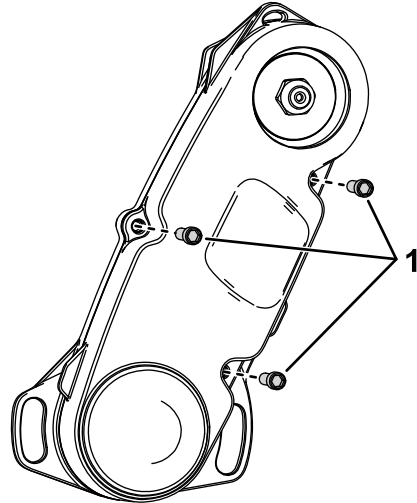

Figure 6
2. Remove the 3 bolts that secure the cover to the reel-drive assembly and remove the reel-drive cover (Figure 6).
7. Install the cover to the reel-drive assembly with the bolts that you removed in step 2; refer to Figure 6.